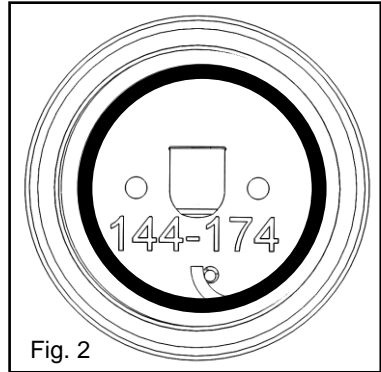

Fig. 2
#### 3. Pre-Installation (Figure 2):
- c. Ensure O-ring is properly seated within O-ring groove as shown in Figure 2.
- d. **Important:** Verify proper operational frequency, as labeled. (Figure 2).